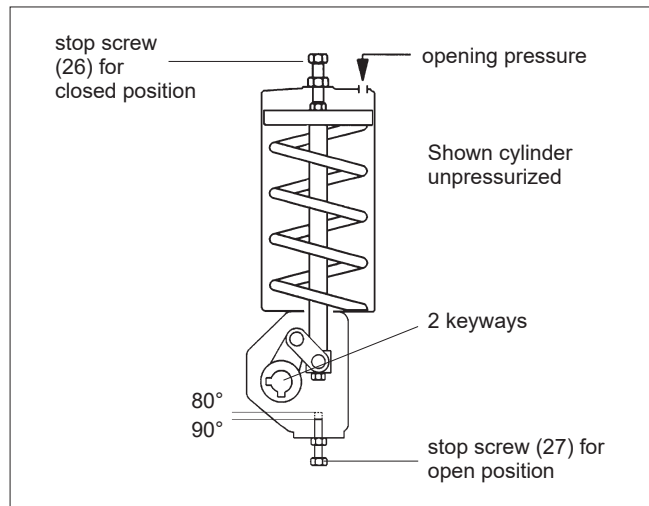

Fig. 6 B1J actuator
Install the actuator on the valve with the piston in the upper end of the cylinder and the valve in the closed position, see Fig. 6. The cylinder must be depressurized and the air ports open. Adjust the closed-position setting using the stop screw (26) at the end of the cylinder. Stop screw (26) is sealed with o-ring (33a). The open-position setting is adjusted with the stop screw (27) at the bottom of the housing while the actuator is pressurized and the piston is in the lower position.